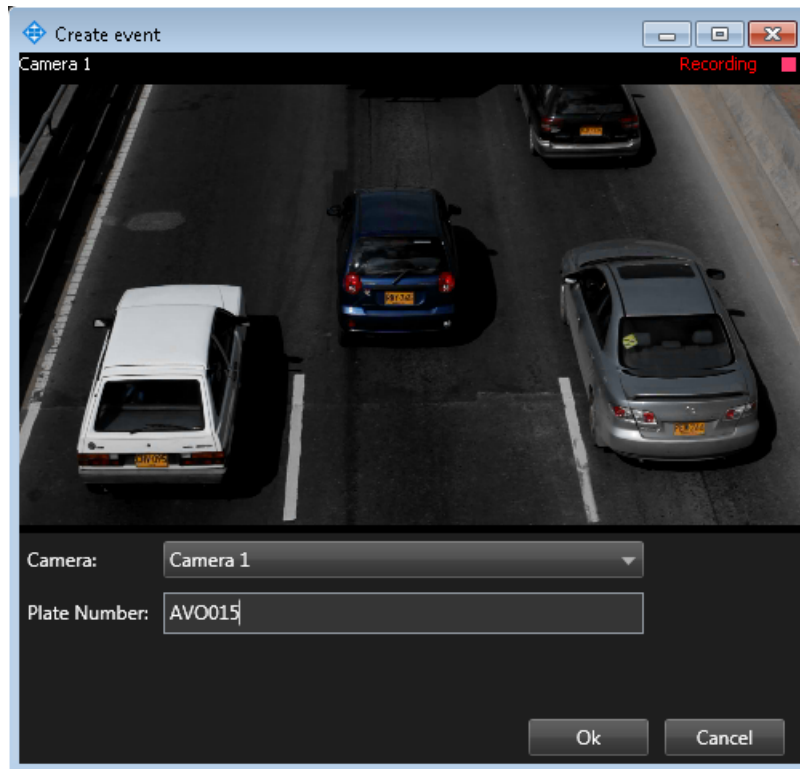

Figure 10: Create event window
2. In the window that appears (Fig. 10), use the dropdown to select a device to be associated with the event (e.g. Camera 5).